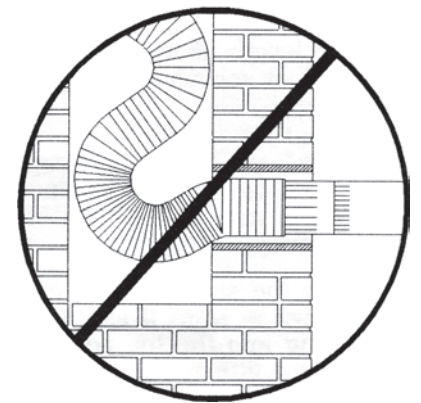
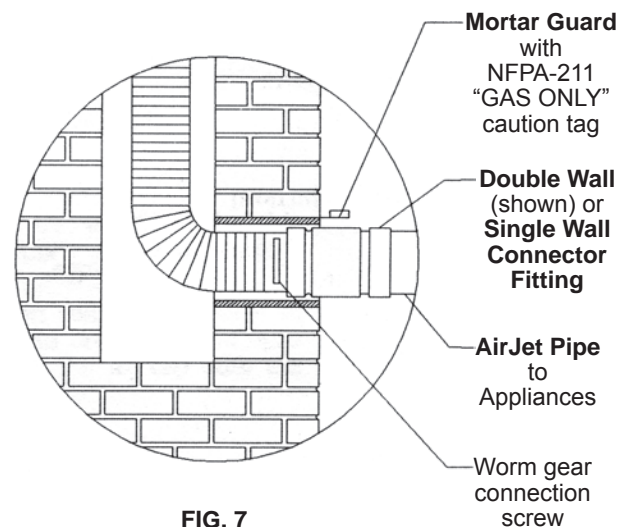

FIG. 6
FIG. 7
Step 11. The assistant at the bottom outlet pulls the liner taut (without over-stretching) to eliminate excessive bends or corrugation compressions in the final installation (see FIG. 6). Trim off excess so that the liner extends approximately 1 to 2 (2.54 to 5.08 cm) inches outside the opening in the chimney. Retain starter cone for repeat use. Extra flex may also be used as a splicer piece on other jobs. Slide the mortar guard over the liner and into position in the opening of the chimney (see FIG. 7).
Step 12. Attach the appropriate fitting, preferably the “FLEXJET” drip free “B” - vent or single wall connector fitting with positive worm gear screw connection. Cement the mortar guard in place with the NFPA-211 required tag flipped outwards and visible for inspection. Slide the connector fitting back slightly so that the worm gear connection is encased just inside the mortar guard. The system is now ready for hookup as appropriate to either type “B” - vent or single wall connector to the appliance (see FIG. 7).